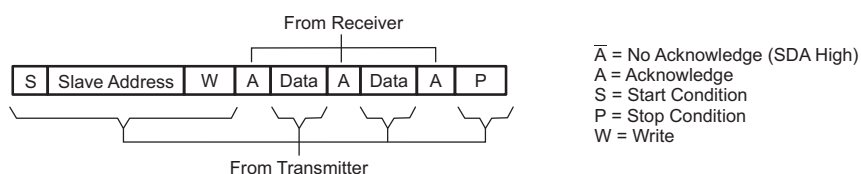
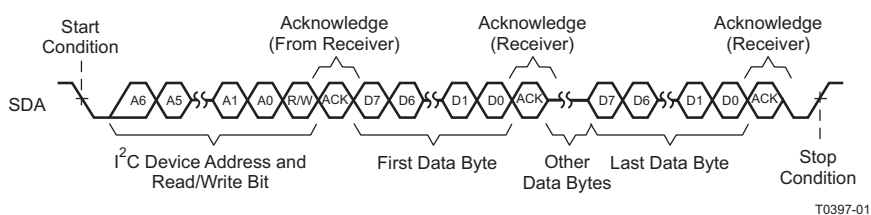
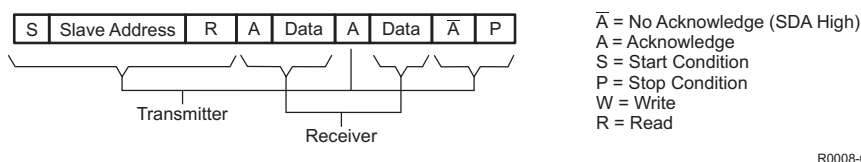
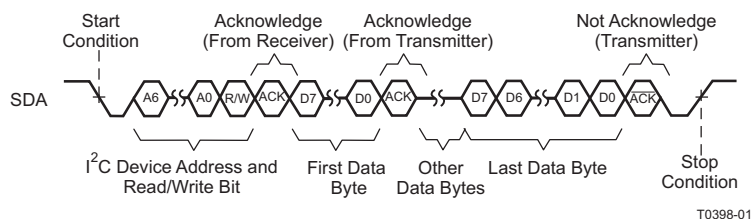

Figure 54. I²C Write Cycle
Figure 55. Multiple-Byte Write Transfer
Figure 56. I²C Read Cycle
Figure 57. Multiple-Byte Read Transfer
- The master generates further SCL cycles to either *transmit* data to the slave (R/W bit 0) or *receive* data from the slave (R/W bit 1). In either case, the *receiver* must acknowledge the data sent by the *transmitter*. So an acknowledge signal can be generated either by the master or by the slave, depending on which one is the receiver. The 9-bit valid data sequences consisting of 8-bit data and 1-bit acknowledge can continue as long as necessary (See Figure 54 through Figure 57).
During a write cycle, the transmitting device must not drive the SDA signal line during the acknowledge cycle so that the receiving device may drive the SDA signal low. After each byte transfer following the address byte, the receiving device pulls the SDA line low for one SCL clock cycle. A stop condition is initiated by the transmitting device after the last byte is transferred. An example of a write cycle can be found in Figure 54 and Figure 55. Note that the TMDS261B allows multiple write transfers to occur. See the Example – Writing to the TMDS261 section for more information.
During a read cycle, the slave receiver acknowledges the initial address byte if it decodes the address as its address. Following this initial acknowledge by the slave, the master device becomes a receiver and acknowledges data bytes sent by the slave. When the master has received all of the requested data bytes from the slave, the not-acknowledge (\bar{A}) condition is initiated by the master by keeping the SDA signal high just before it asserts the stop (P) condition. This sequence terminates a read cycle as shown in Figure 56 and Figure 57. See the Example – Reading from the TMDS261 section for more information.